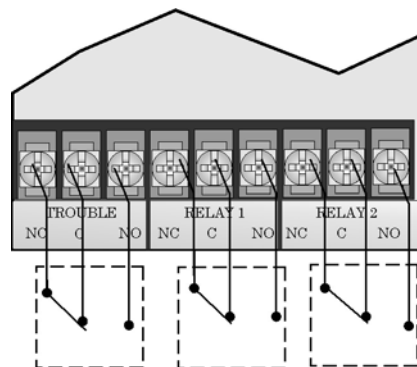

Figure 4-53 Location of Conventional Relay Circuits
1. Wire Relay 1 and/or Relay 2 as needed for your application. See Figure 4-53 for the location of the relay terminals.